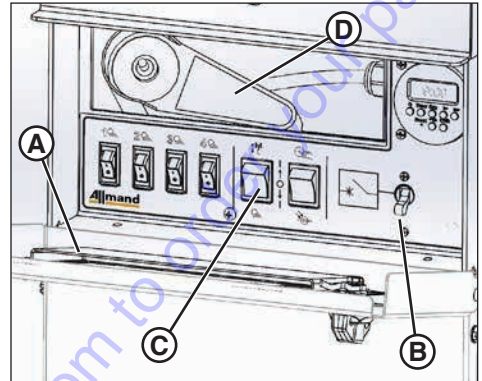

Figure 11
2. Unlatch and open the control panel door (A, Figure 11).
3. Turn the main circuit breaker (B, Figure 11) to the ON position.
4. Turn the Tower / Light switch (C, Figure 11) to the TOWER position.
5. Remove the remote tower control (D, Figure 11) from the control panel and stand back from the unit base.
3. Turn the Tower / Light switch (C, Figure 11) to the TOWER position.
4. Remove the remote tower control (D, Figure 11) from the control panel and stand back from the unit base.